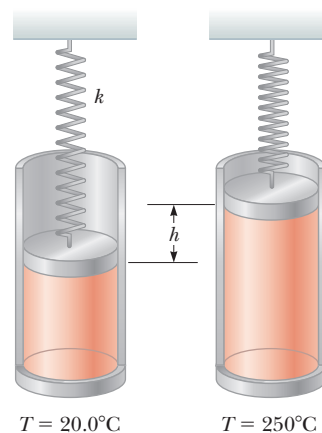

Figure P19.74
74. A cylinder is closed by a piston connected to a spring of constant  $2.00 \times 10^3\text{ N/m}$  (see Fig. P19.74). With the spring relaxed, the cylinder is filled with 5.00 L of gas at a pressure of 1.00 atm and a temperature of  $20.0^\circ\text{C}$ .